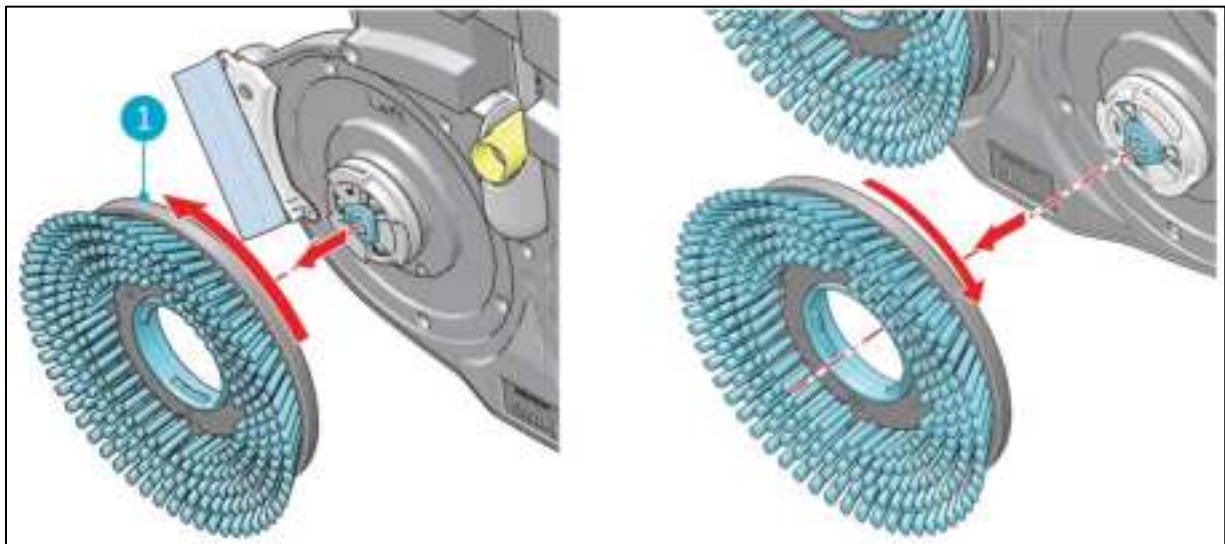

Figure 28
3. Using your other hand to turn the left brush (Figure 28, pos 1) anticlockwise until you feel resistance or see the motor disk turning as well.